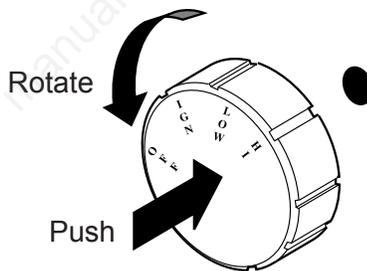

Figure 30 - HIGH Position
10. Push in control knob and turn to desired setting (LOW or HIGH). The control knob must be set at either the low or high position, and the control knob will pop out when positioned correctly. Do not set the control knob at a position between LOW and HIGH. See *Figures 30 and 31*.